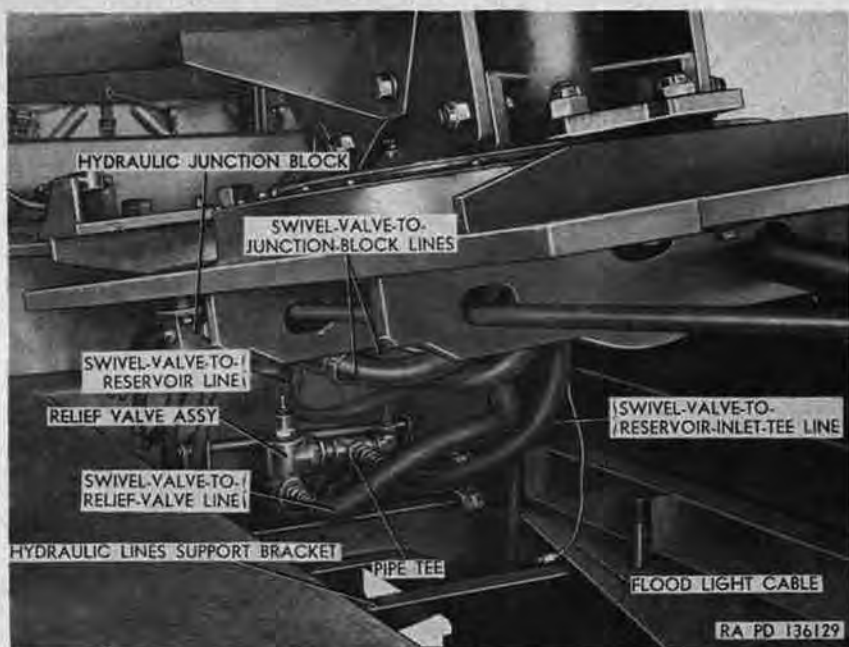

Figure 295. Left front view of base plate and pivot post assembly partially removed M62.
- (c) Disconnect swivel-valve-to-relief-valve line (fig. 295) from relief valve outlet, and disconnect swivel-valve-to-reservoir-inlet-tee line from pipe tee at relief valve.
- (d) Remove clamp securing swivel-valve-to-reservoir line (fig. 295) to top of relief valve and remove line from valve.
- (q) Position swivel-valve-to-reservoir line (fig. 295) at top of relief valve and secure with clamp.
- (r) Connect swivel-valve-to-relief-valve line (fig. 295) to relief valve outlet, and connect swivel-valve-to-reservoir-inlet-tee line to pipe tee at relief valve.